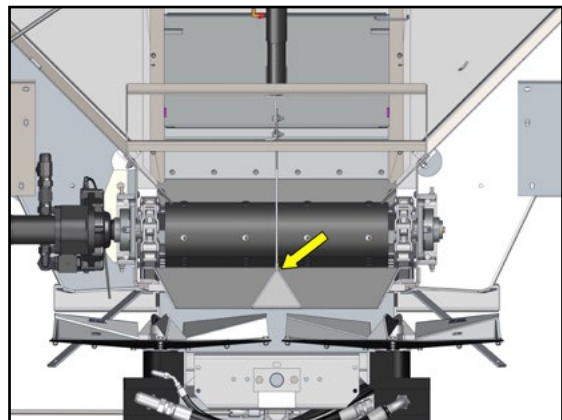

Figure 8
9. Figure 8 - If equipped, Ensure the Hillside Divider is mounted squarely and centered at both the front and the rear. Hillside Divider panel should be perpendicular to ground. Ensure the rear of the panel is centered over the center section of the Material Divider.